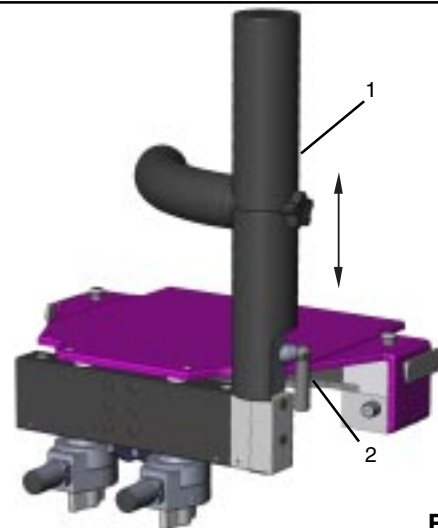

Fig. A7-5
Height (Fig. A7-5). To adjust the height, release clamp (2), raise or lower the upright (1) then tighten clamp (2).